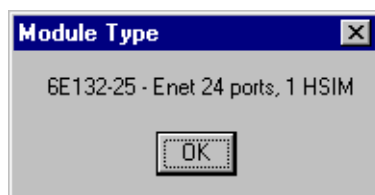

Figure 2-8. Sample Module Type Text Box
2. Click on **Module Type**. A Module Type text box (similar to the example shown in Figure 2-8) will appear, describing the module type.